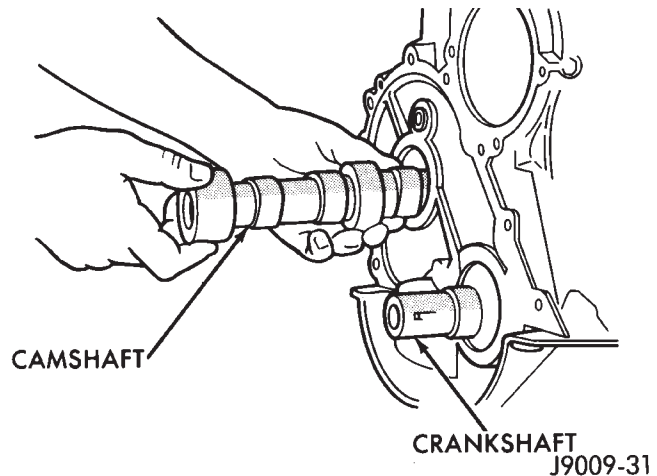

Fig. 47 Camshaft
(5) Scribe a mark on the distributor housing near the clamp and continue the scribe mark on the cylinder block in line with the distributor mark.
(6) For ease of installation, note the position of the rotor and distributor housing in relation to adjacent engine components.
(7) Remove the distributor and ignition wires.
(8) Remove the engine cylinder head cover.
(9) Remove the rocker arms, bridges and pivots.
(10) Remove the push rods.
(11) Remove the hydraulic valve tappets from the engine cylinder head.
(12) Remove the vibration damper.
(13) Remove the timing case cover.
(14) Remove the timing chain and sprockets.
(15) Remove the camshaft (Fig. 47).
(1) Inspect the cam lobes for wear.
(2) Inspect the bearing journals for uneven wear pattern or finish.
(3) Inspect the bearings for wear.
(4) Inspect the distributor drive gear for wear.
(5) If the camshaft appears to have been rubbing against the timing case cover, examine the oil pressure relief holes in the rear cam journal. The oil pressure relief holes must be free of debris.
(6) Lubricate the camshaft with Mopar Engine Oil Supplement, or equivalent.
(7) Carefully install the camshaft to prevent damage to the camshaft bearings (Fig. 47).